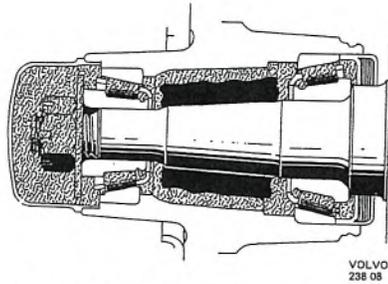

Fig. 7-22. Lubricating front wheel hub
7. Press grease into the bearings with the help of a grease gun. If such is not available, pack the bearings with grease by hand. Pack in as much as possible between the roller retainer and bearing inner ring. Also apply grease to the outer sides of the bearings and on the outer rings pressed into the hub. Fill the recess in the hub with grease all round up to the smallest diameter on the outer ring for the outer bearing, see Fig. 7-22. Use a first-class bearing grease for the bearings. Place the inner bearing in position in the hub. Press in the sealing ring with drift 1798 together with standard handle 1801 (Fig. 8-23).